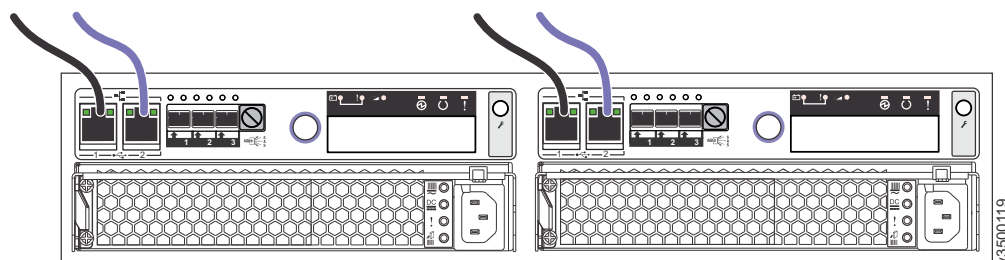

Figure 20. Connecting the Ethernet cables
1. Connect Ethernet port 1 of each node canister in the system to the IP network that will provide connection to the system management interfaces, as shown in Figure 20. This port can also be used for iSCSI connectivity to the system by hosts on the network. Where more than one control enclosure is present in the system, ensure port 1 of every node canister is connected to the same network to provide access if the configuration node fails.
2. Optionally, connect Ethernet port 2 of each node canister in the system to a second IP network that will provide redundant connection to the system management interfaces, as shown by the lighter cable connection in Figure 20. This port can also be used for iSCSI connectivity to the system by hosts on the network. If there is more than one control enclosure in the system, ensure that port 2 of every node canister is connected to the same network to provide access if the configuration node fails.